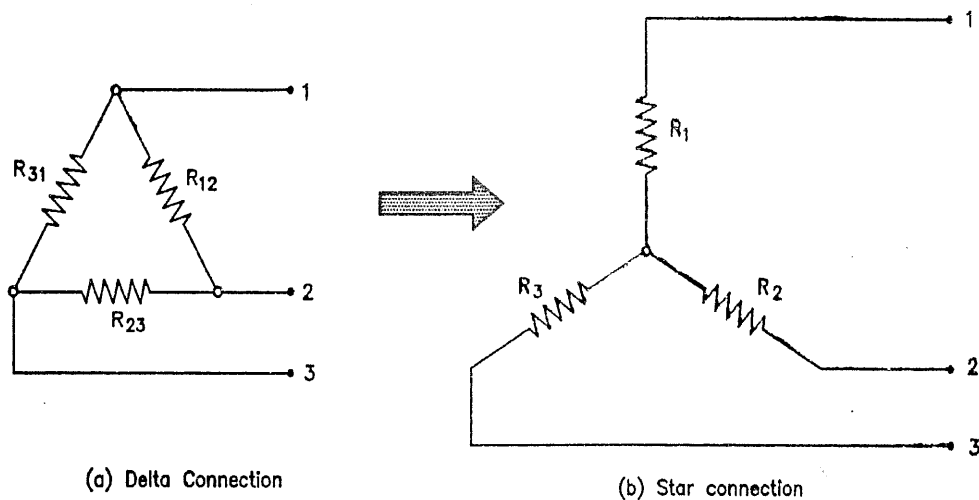

FIG. 1.35 : DELTA-STAR TRANSFORMATION
- Suppose three resistances R_{12} , R_{23} and R_{31} are connected in delta fashion between the terminals 1, 2 and 3 as shown in fig. 1.35(a).
- So far as the respective terminals are concerned, these three resistances (R_{12} , R_{23} and R_{31}) can be replaced by the three resistances R_1 , R_2 and R_3 connected in star system as shown in fig. 1.35(b).
- Now consider star connection. The resistance between the same terminals 1 and 2 (Fig. 1.35(b)) is $(R_1 + R_2)$... (2)
- Since the two systems are identical, resistance measured between terminals 1 and 2 in both systems must be equal. Therefore equating the equations (1) and (2), we get.